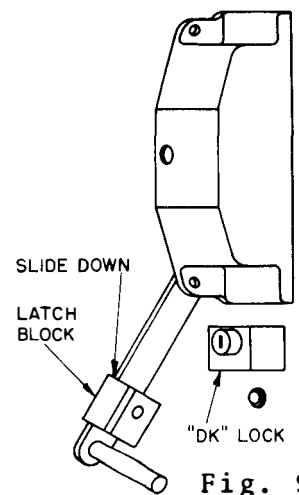

Fig. 9
- 2 - Slide latch block on handle arm down to clear "DK" lock shown in Fig. 9.